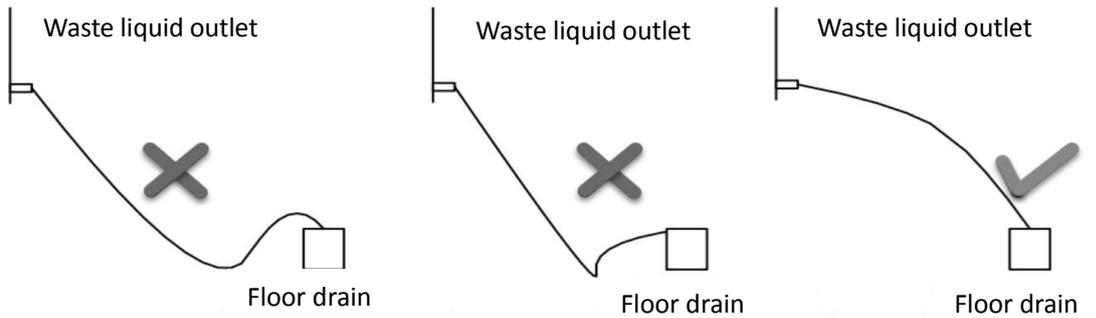

Figure 2.1 Waste Liquid Discharge
- The length of the discharge pipe of low-concentration waste liquid is not more than 5 m. The pipe should be not bent, connecting instrument waste liquid outlet with the floor drain. When the pipe length is relatively long, the middle pipeline should be properly erected to form a smooth discharge line from high to low. The Pipeline should not be bent like U-shaped or V-shaped forms, otherwise, waste liquid may be poured back into the analyzer, as shown in Fig 2.1.